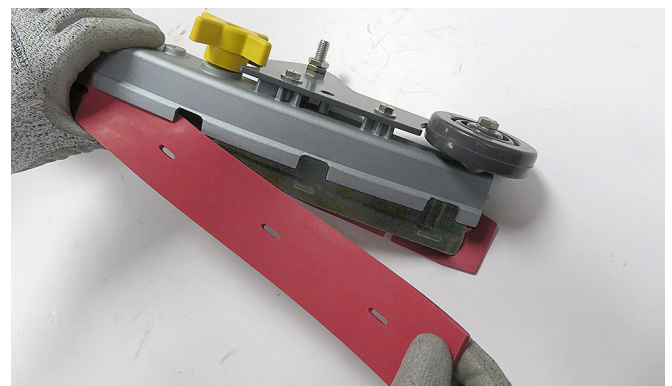

FIG. 146
3. Remove worn blade(s) from the blade retainer (Figure 146).